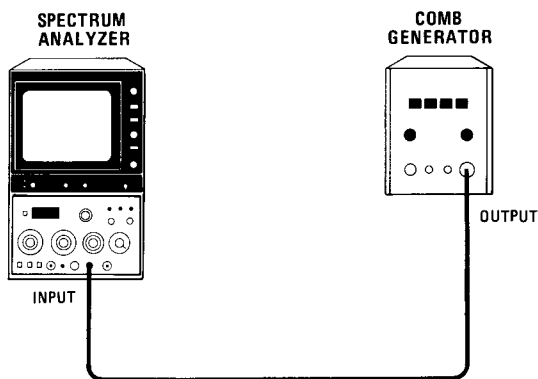

Figure 4-5. Tuning Accuracy Test Setup
3. Connect equipment as shown in Figure 4-5.